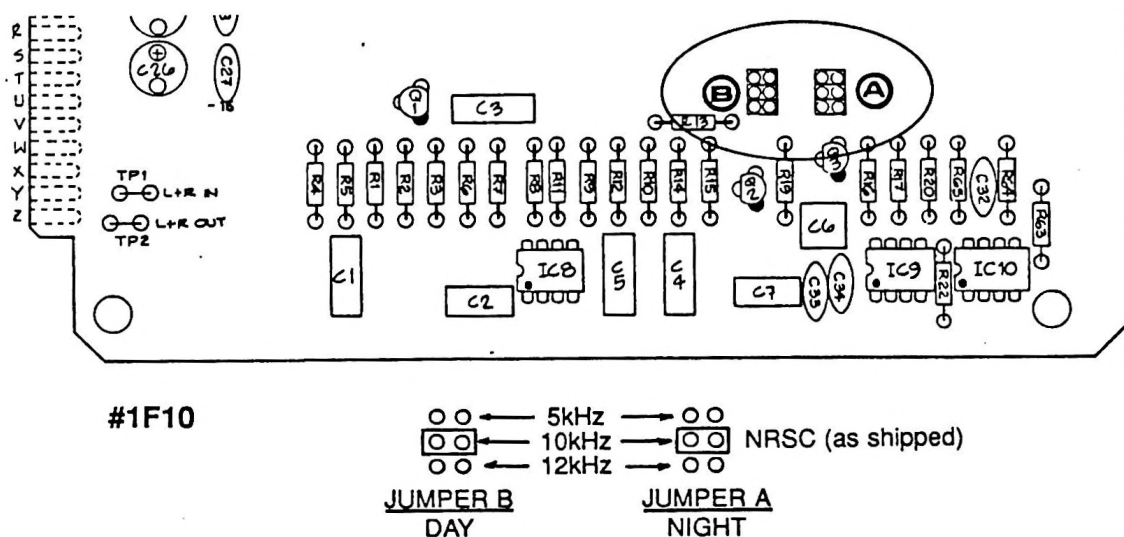

Fig. 4: Low-pass Filter Jumper Positions, Card #1F10
- Position jumpers A (night) and B (day) on Card #1F10 to select the desired low-pass filter (see Fig. 4).